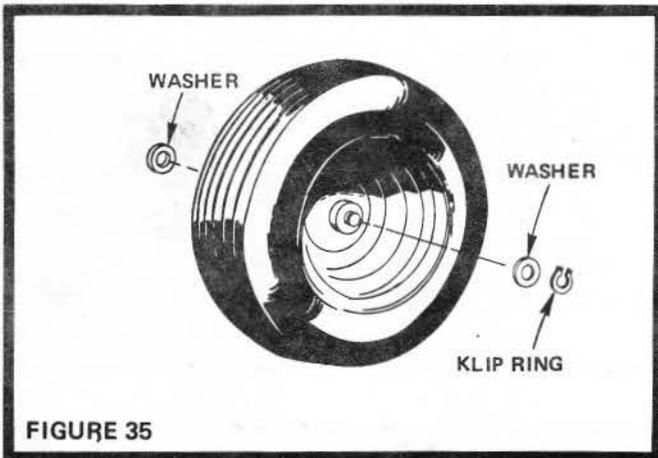

FIGURE 35
- d. Removing front wheel for tire repair (Fig. 35).